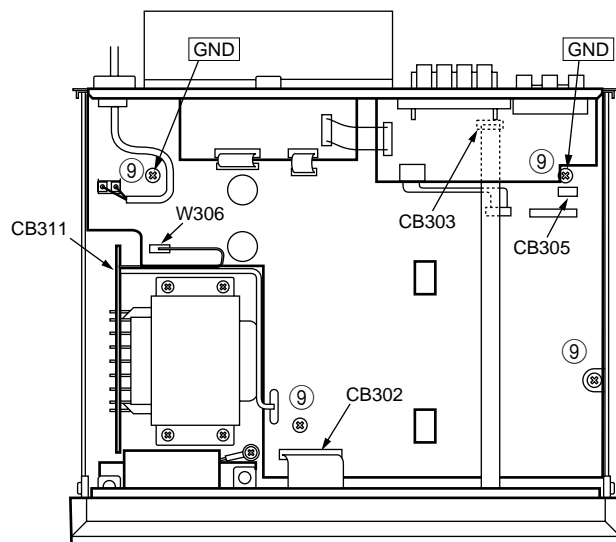

Fig. 6
- g. Remove 4 screws (⑨). (Fig. 6)
- n. Connect **GND** (x4 in Fig. 6, 7) to the main chassis by using a lead wire.